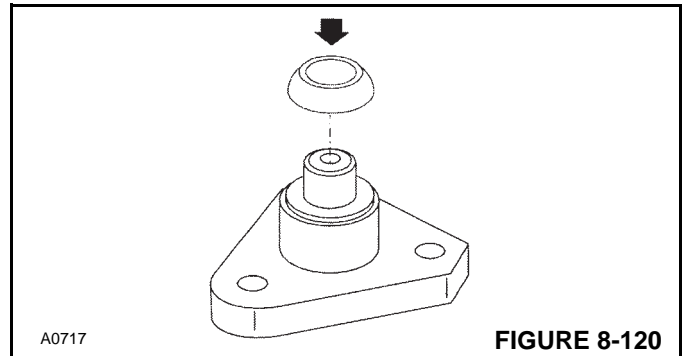

FIGURE 8-120
3. Place the lower kingpin on a workbench and install the bearing cone (Figure 8-120) with SPECIAL TOOL P/N 1901781, using a press.